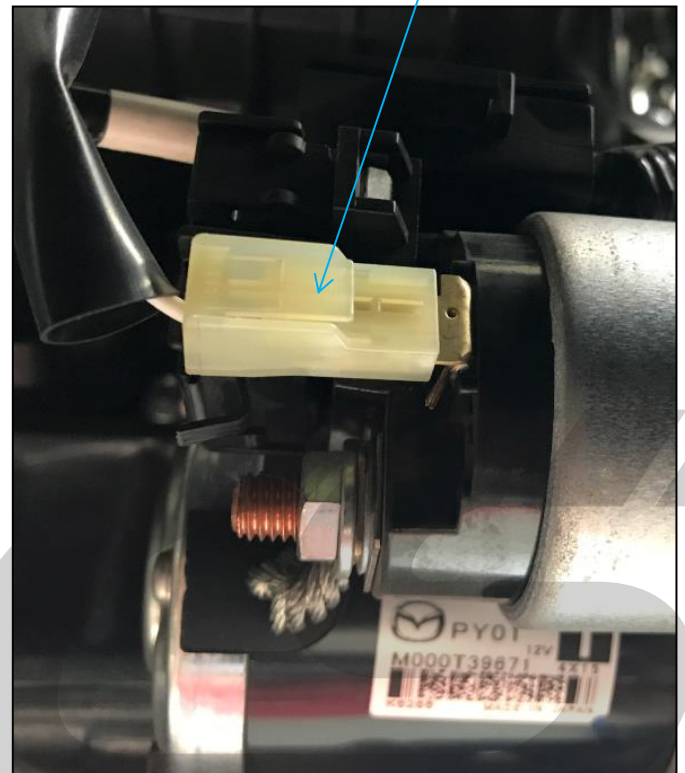

Figure 2b
- b) Disconnect the white plastic clip from the starter shown in **Figure 2b**.